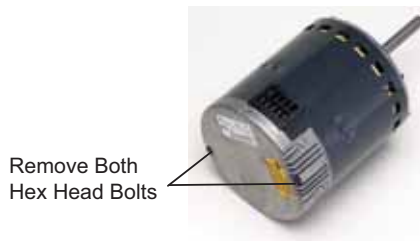

Figure 15.
- 4 - Remove the two hex head bolts securing the motor control module to the motor (**Figure 15**).
- 3 - Mount new motor control module to motor using two hex head bolts removed in **Figure 15**. Torque bolts to 22 inch pounds or 1/16th clock wise turn.